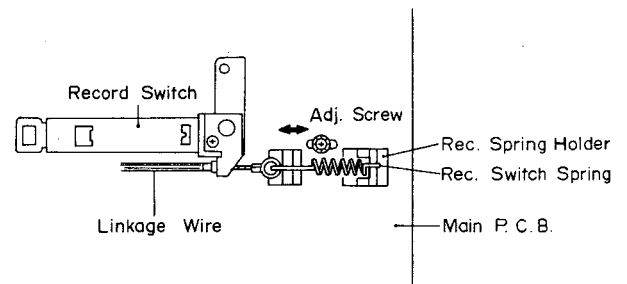

Fig. 4.17
- (1) Set the N-480Z in Stop mode.
- (2) Loosen the screw of the Record Spring Holder, and shift the Record Spring Holder in order to remove the looseness of the Linkage Wire as shown in Fig. 4.17. Then tighten the screws for fixing the Record Spring Holder. (In this case, the Record Switch should be positioned at play side. If on the record position, it will be defective.)